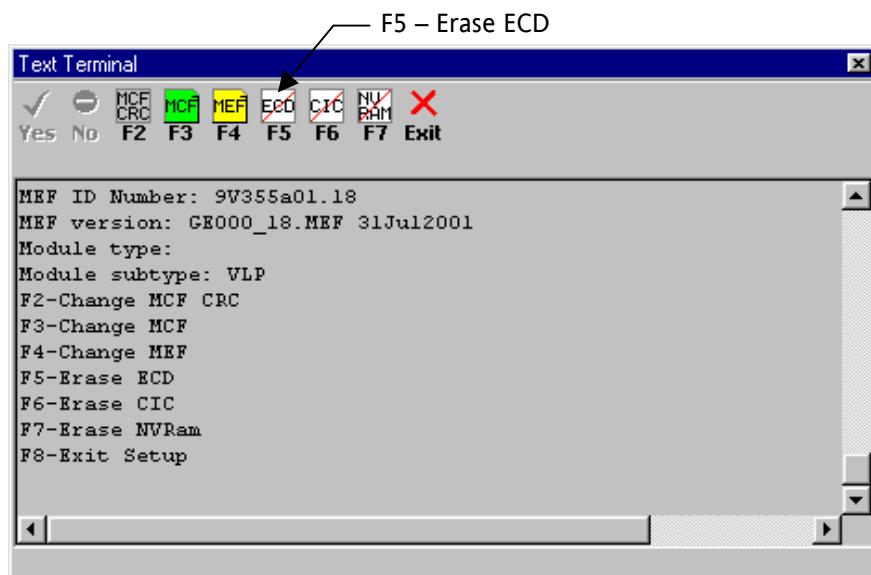

Figure 3-31
3. A boot screen similar to figure 3-31 appears. From the Function Key options, select **F5** (Erase ECD).